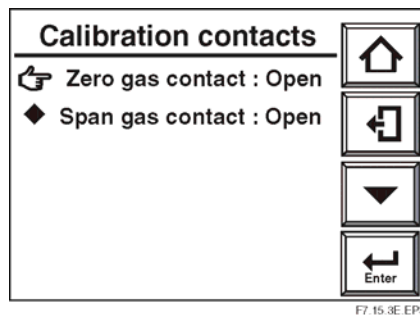

Figure 7-20 Calibration Contact Check Display
2. Select “Calibration contacts”. The display shown in Figure 7-20 appears.